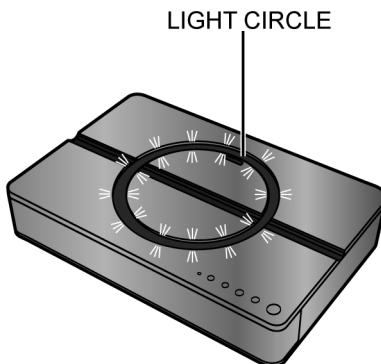

Figure 7-1
Step 3 : LIGHT CIRCLE start blinking with 250ms (Refer to Figure 7-1) .